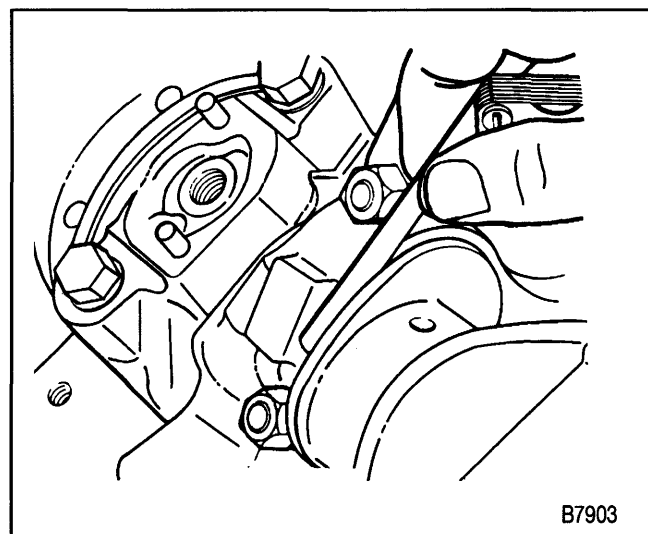

Figure 45—Measuring Connecting Rod Side Clearance
- Connecting rod side clearance. Use a feeler gage between the connecting rod and crankshaft (figure 45).